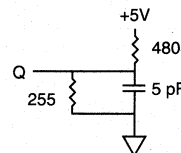

Fig. 2 OUTPUT LOAD EQUIVALENT
- ^tHZCE, ^tHZWE and ^tHZOE are specified with CL = 5pF as in Fig. 2. Transition is measured ±500mV from steady state voltage.